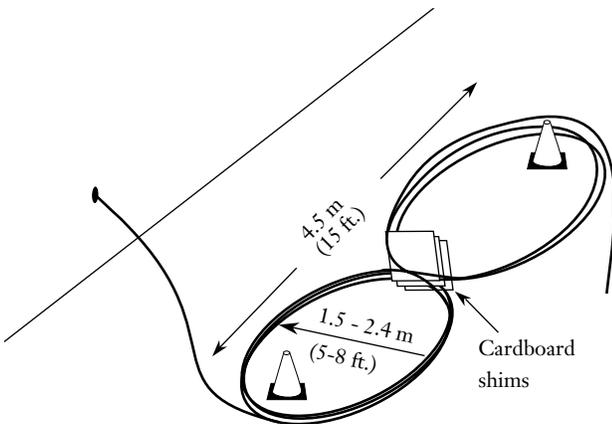
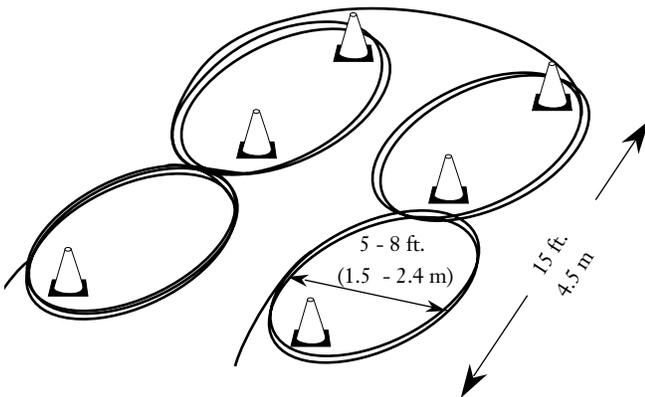

Figure 5
Figure 6
5.9 When “figure-eighting” long lengths of cable, relieve pressure on the cable at the crossover of the eight by placing cardboard shims at the crossover (Figure 5) or by forming a second “figure-eight.” (Figure 6).